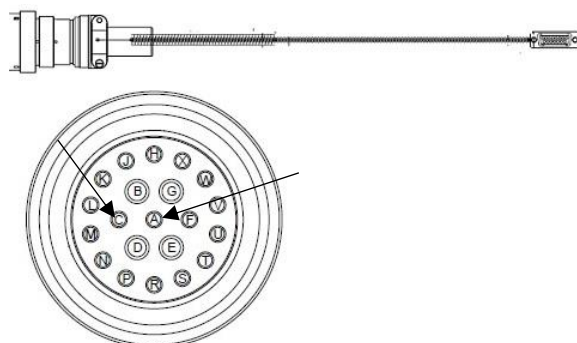

Figure 193
5. Check for 12-volts at the connector at the single point connection from the display harness at pin A. Figure 193
6. Check for a ground at pin H. Figure 193